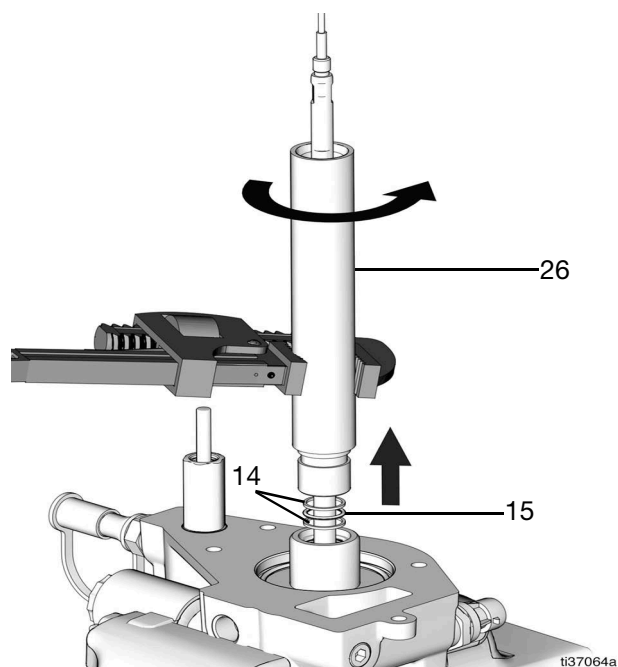

FIG. 45
28. Loosen and remove the extension tube (26) from the top housing. Remove two backup rings (14) and the o-ring (15) (FIG. 45).